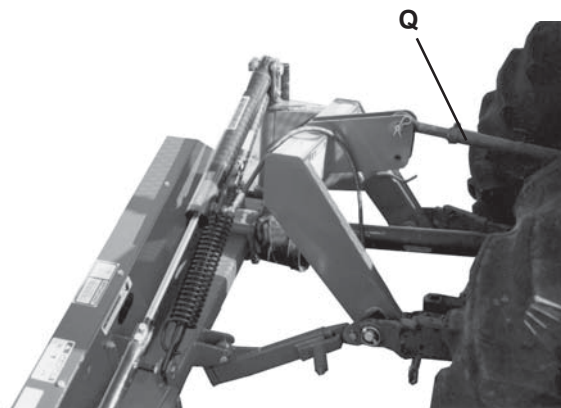

Figure 2
2. Connect the Top Link (Q) to the 3-point frame and secure the pin. (See **Figure 2**.)